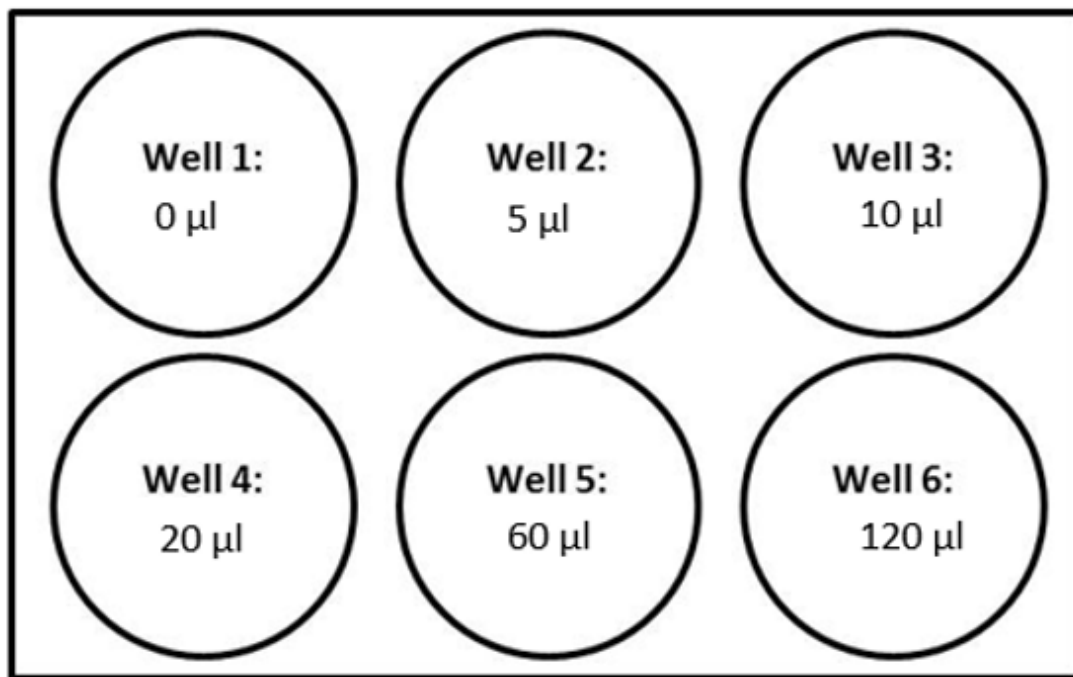
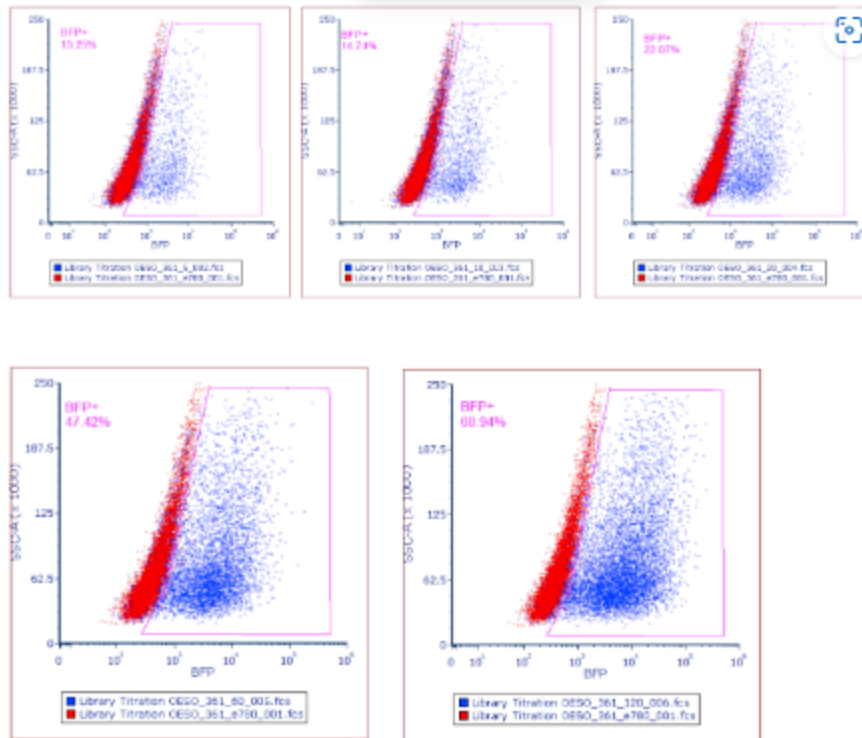

Fig 3: Example plate layout. Titration concentrations can be adjusted.
Fig 4: Example flow cytometry analysis of %BFP expression. Blue = tested virus concentration. Red = e780 un-transduced control.
- 4.3** Aspirate the supernatant from the tubes and resuspend each cell pellet in  1.9 mL of transduction media (prepared on Day 1) and add  100 µL of 100% BME2 to make a 5% BME2 solution. Mix well and transfer all 2 ml into each well of a low attachment 6wp. (Fig 3).
5.18 For each titration point create an overlay plot (Fig 4) using your un-transduced control (Well 1 of Fig 3).